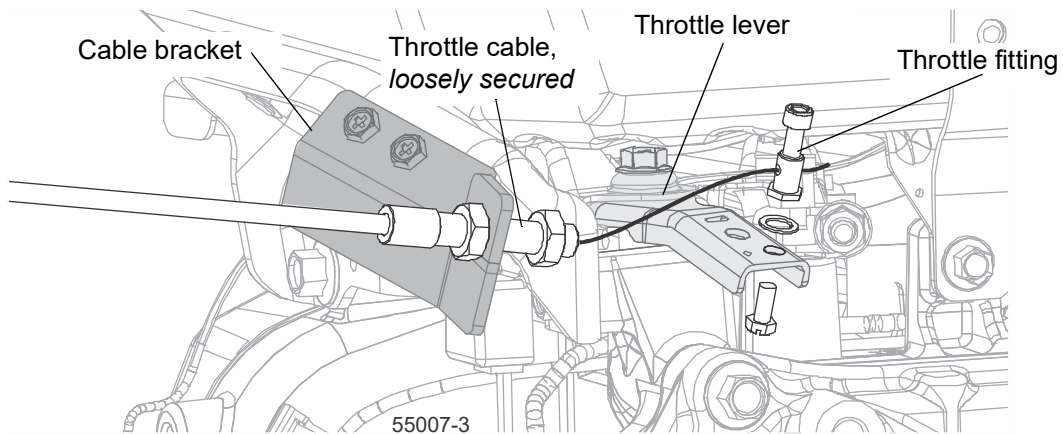

FIG. 3-23
1. Replace the existing cable bracket on the engine with the supplied cable bracket. See Fig. 3-23.
2. Loosely attach the throttle cable to the cable bracket. See Fig. 3-23.
3. Insert the throttle fitting in the throttle lever bracket. See Fig. 3-23.
4. Fasten step washer, lock washer, and bolt. See Fig. 3-23.